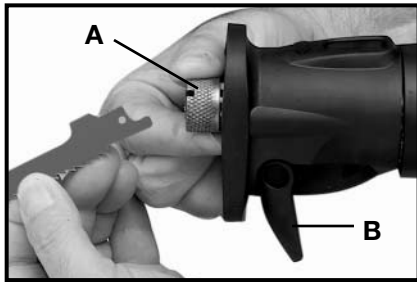
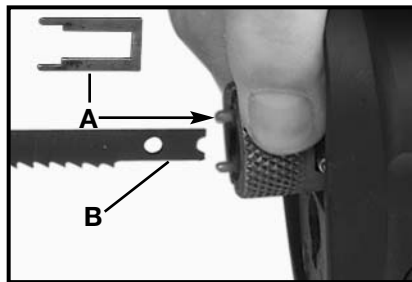
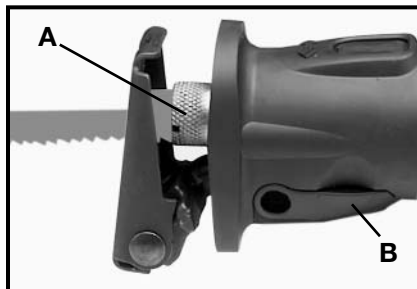

Fig. 3
Fig. 3A
Fig. 4
**NOTE:** The *Quik-Change*™ pivoting guide shoe can be temporarily removed to make blade installation easier. Release locking lever (B) Fig. 3 to remove (see Pivoting Guide Shoe Assembly and Adjustment section of this manual).
4. Insert the blade into the clamp until it bottoms. Allow the release collar to rotate clockwise to lock the blade in place, (A) Fig. 4. **NOTE:** The blade can be installed upside down if preferred, for better reach in tight fitting applications.
2. Insert the jig saw blade adaptor (A) Fig. 3A into the the clamp until it bottoms out. Insert the jig saw blade (B) into the blade adaptor (A). Allow the release collar to rotate clockwise to lock the blade in place as shown in (A) Fig. 4.
The *Quik-Change™* pivoting guide shoe is designed for quick release and easy removal without any tools. To remove, open the lock lever (B) Fig. 3 and slide the guide shoe out of the front scroll housing. To reinstall slide the guide shoe into the front scroll housing and close the lock lever as shown in (B) Fig. 4. The shoe extension can be adjusted and locked in any one of three different positions.